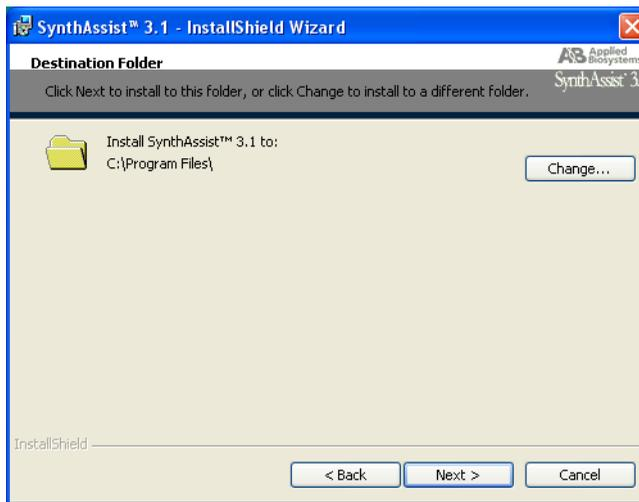

Figure 2-6 The Destination Folder Screen
5. In the Destination Folder screen (Figure 2-6), click **Next** to accept the default location.